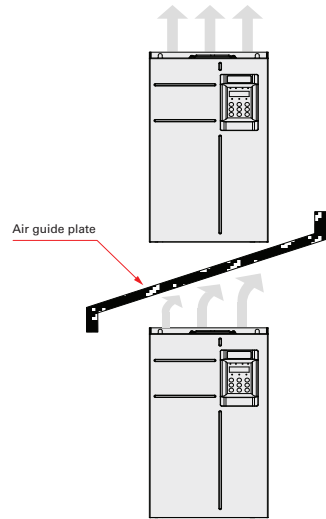

Figure 4-1-2d Installation of an air guide plate
- Mount the AC drive in an upright position for efficient heat dissipation. When installing several AC drives within a cabinet, line up the tops of the drives. Where an AC drive is required to be mounted directly above another AC drive, install an Air Guide Plate, as shown in Figure 4-1-2d.